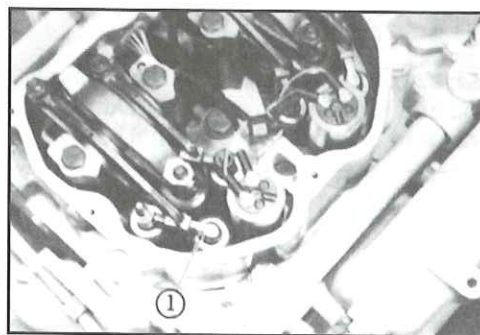

Fig. 7
Install bridge assembly (1) on bridge dowel with the adjusting screw toward the rocker shaft as shown in Fig. 7. This is *180 deg.* from the original position.